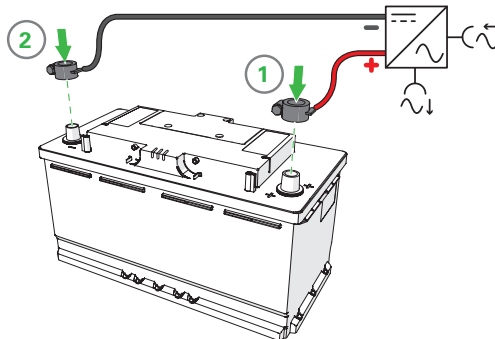

Figure 8.
2. Connect the load or charger to the X2 (+) terminal of the battery. (Figure 8)
3. Connect the load or charger to the X1 (-) terminal of the battery. (Figure 8)